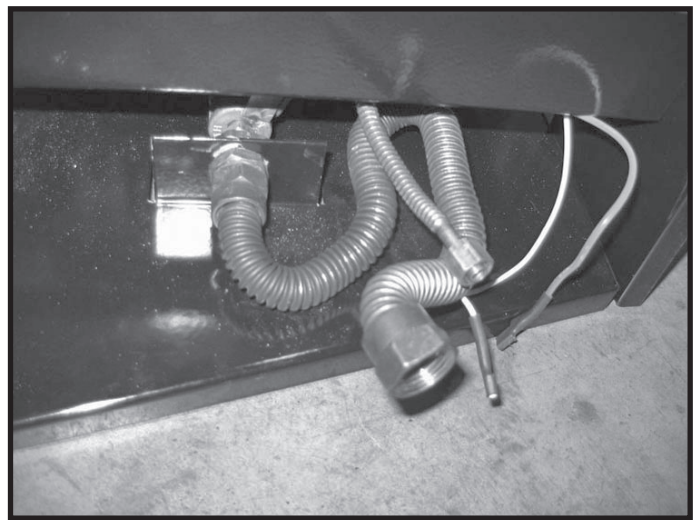
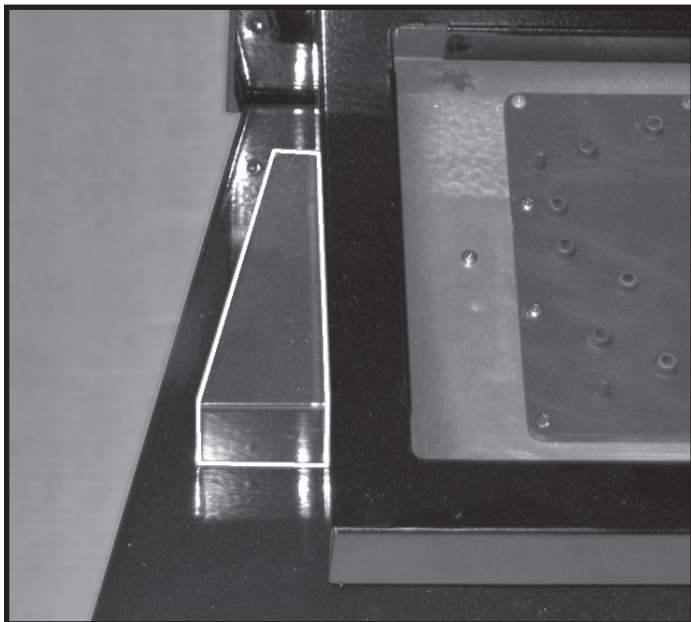
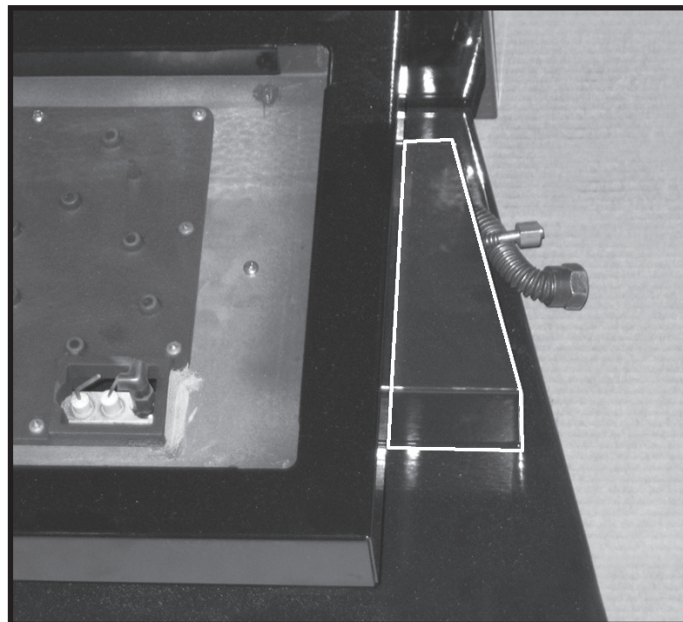

Figure 6: Flex line bent to shape.
Figure 7: Left hand side cover.
Figure 8: Right hand side cover.
5. Bend the larger flexible gas supply line, the smaller flexible pilot gas line along with the ignition and sensor wires into shape (Figure 6) so that the right hand side cover will fit over top of them before the burner is placed into the firebox (Figure 8). This cover must be positioned into the burner before the burner is placed into the firebox as there is no room to install the cover once the burner is in the firebox.
6. Place side covers between the burner tray and its base (Figure 7 and Figure 8) before the burner tray is inserted into the firebox. These will remain in the retracted position until later in the installation process.